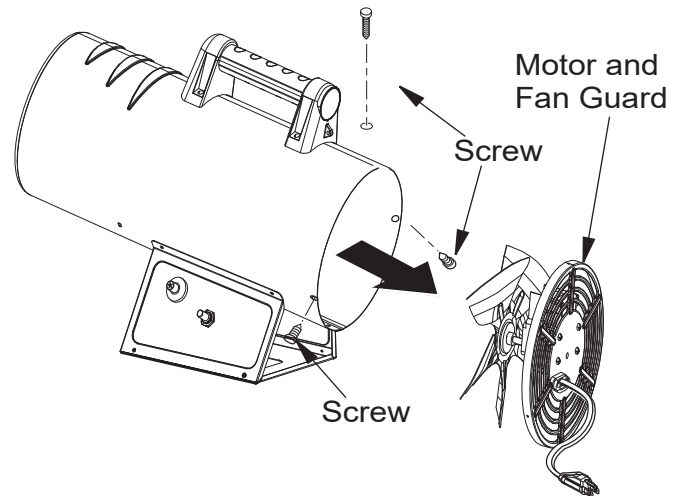

Figure 5 - Removing Motor and Fan Guard from Heater (heater may vary from illustration)
2. Access the ground screw through the underside of the heater base. Remove ground screw. Disconnect the green motor wire and the green power cord wire from the underside of the shell (see Figure 5).
5. Use a nut-driver to remove the three screws holding the motor mount to the shell (see Figure 5).
12. Carefully route the motor wires through the hole in the shell. Place the motor, motor mount and fan guard into rear of heater shell (see Figure 5).
13. Insert three screws through the heater shell and into the fan guard (see Figure 5). Firmly tighten the screws.